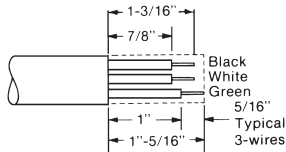

Figure 3
3. Strip cord sheath and wire insulation according to dimensions shown in Figure 3. Be careful not to damage individual conductors or their insulation.